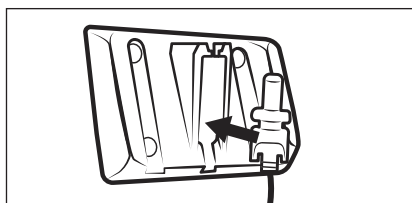

Fig. 4
- 1) Insert the barrel plug **11** of the mains adapter **10** into the wall bracket **18** (see Fig. 4). Secure the barrel plug **11** by turning it.